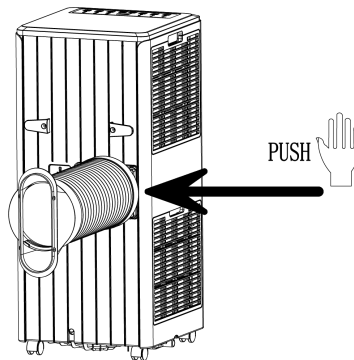

Figure 1
1.1 Install the heat pipe assembly (as shown in Fig.1)
(push to the left) and complete the assembly (as shown in figure 1).